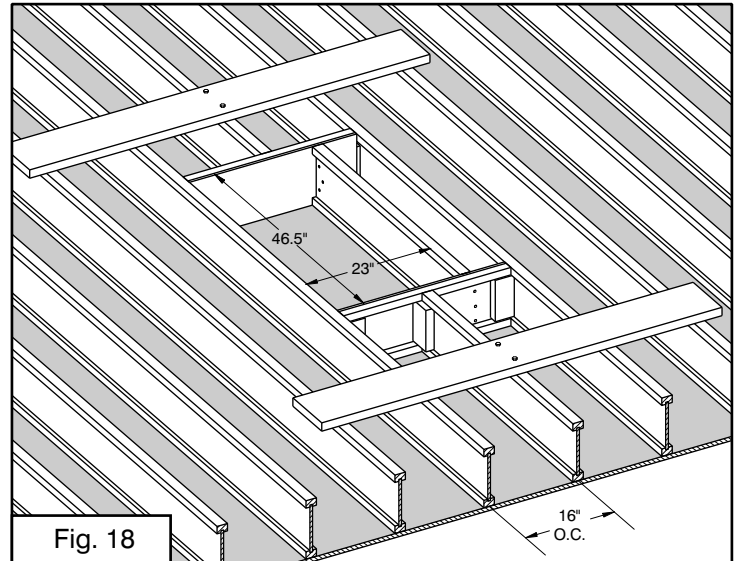
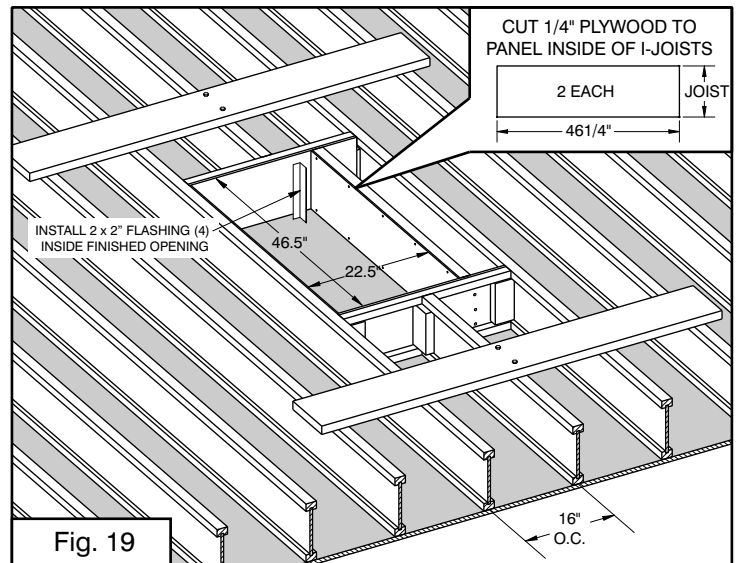

Fig. 18
Fig. 19
**When headers are constructed as described above, the opening must be framed 1/2" oversized in only one dimension to 46 1/2" x 23"** (Fig. 18). Next, cut two 1/4" thick plywood panels (Fig. 19 inset) and nail them to the two I-Joist faces inside the opening (Fig. 19). The final opening size will be 23 1/2" x 46 1/2" (Fig. 19). Please note that any nail heads in the opening must be set flush or below the surface and decking and sheet rock must be cut or installed flush to the opening (Fig. 2b & 19). Finish the opening by installing the 2 x 2" flashing in the corners as shown in Fig. 19.